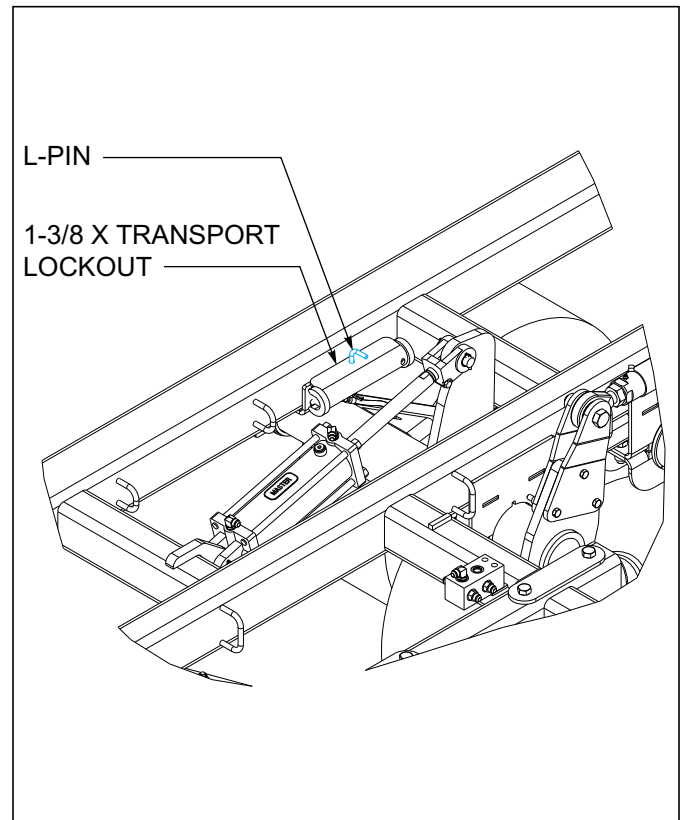

Figure 4-4: Stored Transport Locks
5. Store transport lockouts as shown in **Figure 4-4.**
1. Raise the unit to take the weight off of the transport locks. Remove the transport locks from the lift cylinders (on the main frame only.) Store the transport locks on the retainers above the main lift **(See Figure 4-4.)**